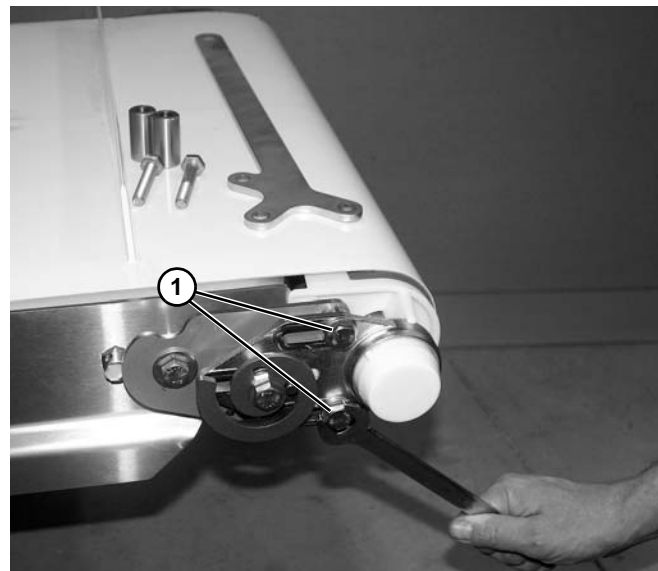

Figure 51
1. Remove two screws (Figure 51, item 1) from the tail plate.